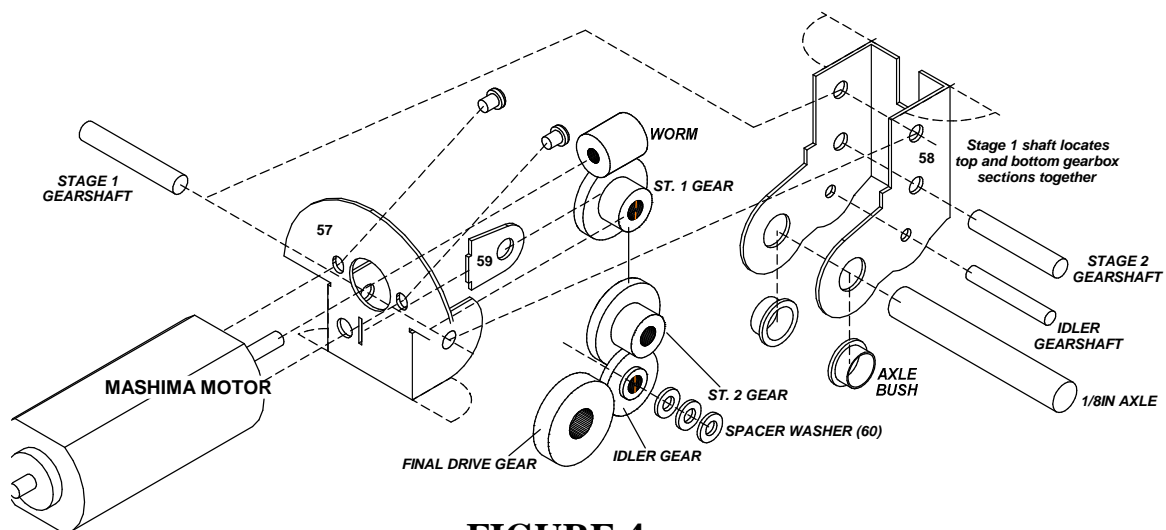

FIGURE 4.
Study Figs 4 - 7. Before cutting the gearbox etches (57 & 58) from the fret, progressively drill out or ream each of the holes to accommodate the shafts or bushes shown in Figure 4. Components should be offered up until they are a tight push-fit in their holes. Once the gearbox is assembled, the shafts are fixed but the gears are free to revolve.
Remove burrs by inserting the tip of a drill bit (of much larger diameter than the hole) and gently rotating it between your fingers. Solder the 1/8in bushes into place on the bottom section of the gearbox with the larger-diameter shoulders on the same side of the etch to the bend lines. Now cut the etches from the fret with a heavy blade and trim off the tabs. The gearbox parts can now be folded up as indicated in Fig 4. All bend lines are on the inside of the gearbox.
Refer to figure 4. Solder the stage one spacer (59) into its location in the top section of the gearbox, using the gearshaft to position it. De-flux the gearbox parts by scrubbing with household cleaner, rinse and allow to dry. Check that the gears themselves are free from any dust or swarf left over from manufacture. Cut the insulated wire (not supplied) into two equal lengths and solder to the motor brush tags. For testing, connect the other ends to the output leads of your controller.